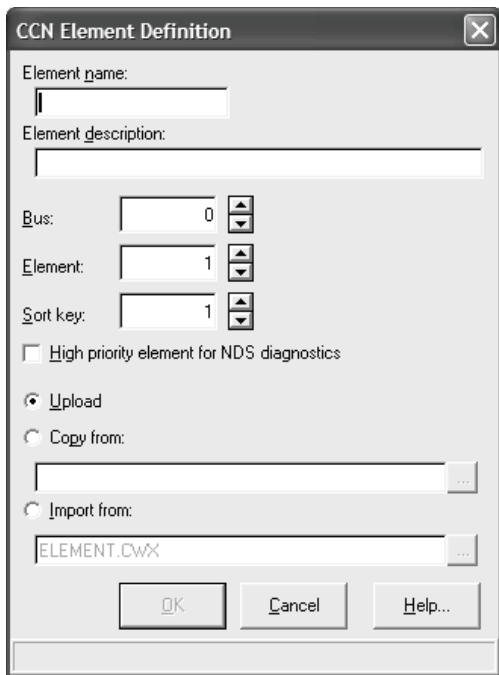

Fig. 12 — CCN Element Definition
5. “CCN Element Definition” screen is displayed. Enter “Element name” (for this example we are using “My 19XR”) and “Element description” using onscreen keyboard, then press “OK” (Fig. 12). Enter “Bus” and “Element” numbers.